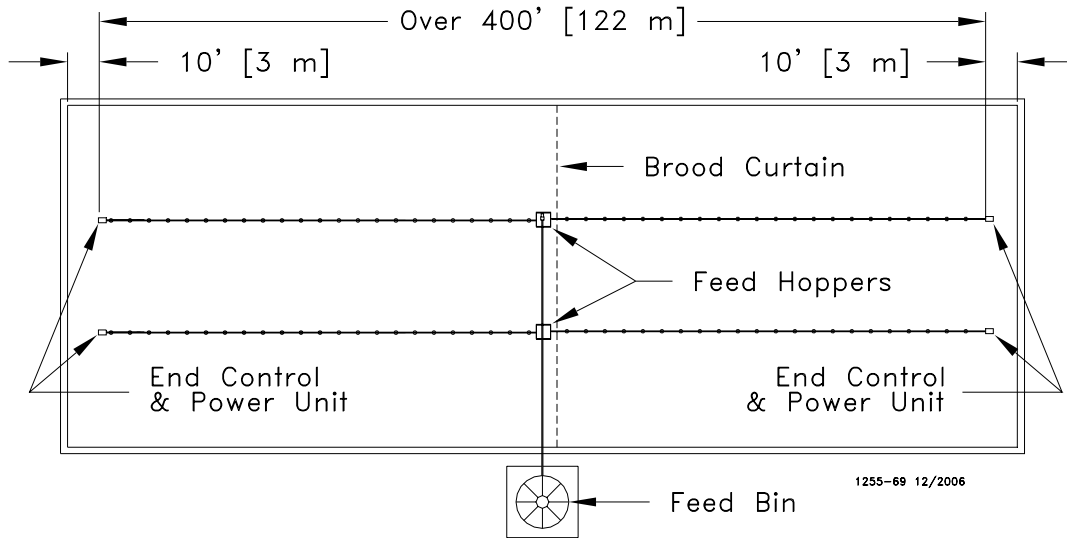

Figure 2. Component location diagram for systems over 400 feet [122 m]. (Top View).
A. Systems with line lengths over 400' [122 m] should be split in the center, as shown in Figure 2. This will reduce auger running time and eliminate the need for mid-line controls for partial house brooding.